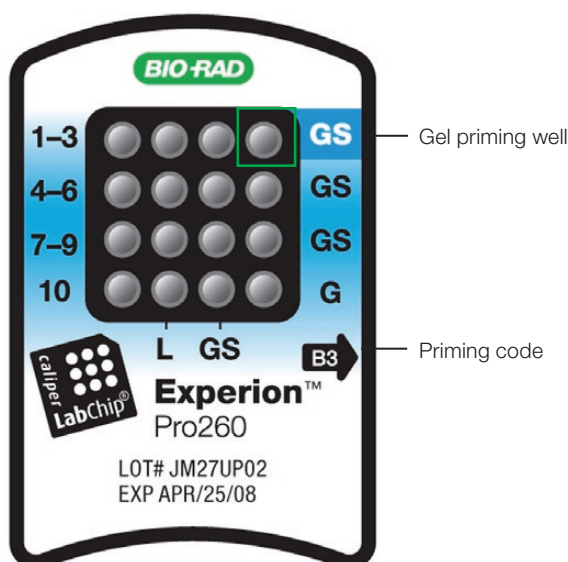

Fig. 3.1. Experion Pro260 chip. The locations of the gel priming well (GS, highlighted) and alphanumeric priming code are indicated.
1. Pipet 12 μ l GS into the top right well of the chip (highlighted and labeled GS, gel priming well) (Figure 3.1). Insert the pipet tip vertically and to the bottom of the well when dispensing. Dispense slowly to the first stop on the pipet, and do not expel air at the end of the pipetting step.
2. On the priming station, set the pressure setting to **B** and the time setting to **3**, as specified by the alphanumeric code on the chip (Figure 3.1).